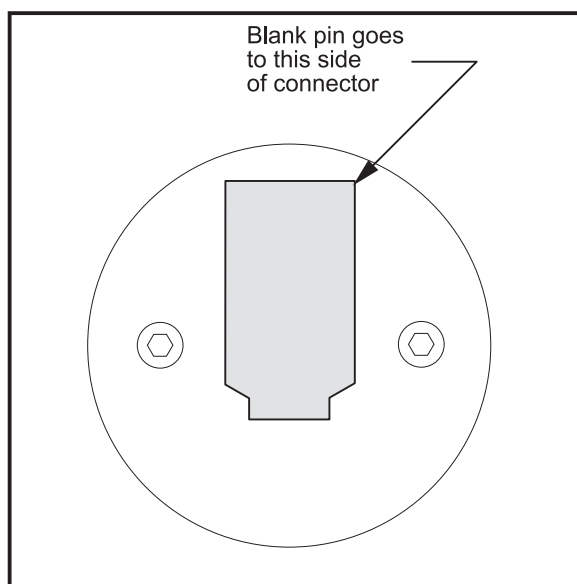

Figure 4-16. Jog handle encoder.
3. Unplug the cable leading to the jog handle encoder. **IMPORTANT!** The blank pin side of the connector must face as shown in Fig. 4-16 when reconnecting; otherwise, damage may occur to the machine.